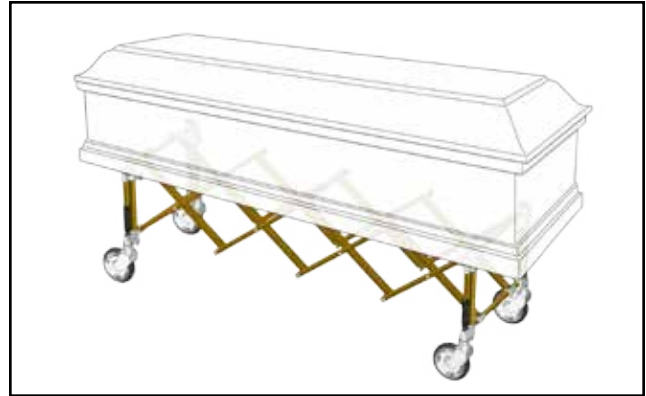

Figure 11 - Center the Casket on the Truck
2. Adjust the truck length to be as long as possible while keeping the ends of the truck beneath the casket (Figure 11). See *Adjusting the Truck Length*, page 9.